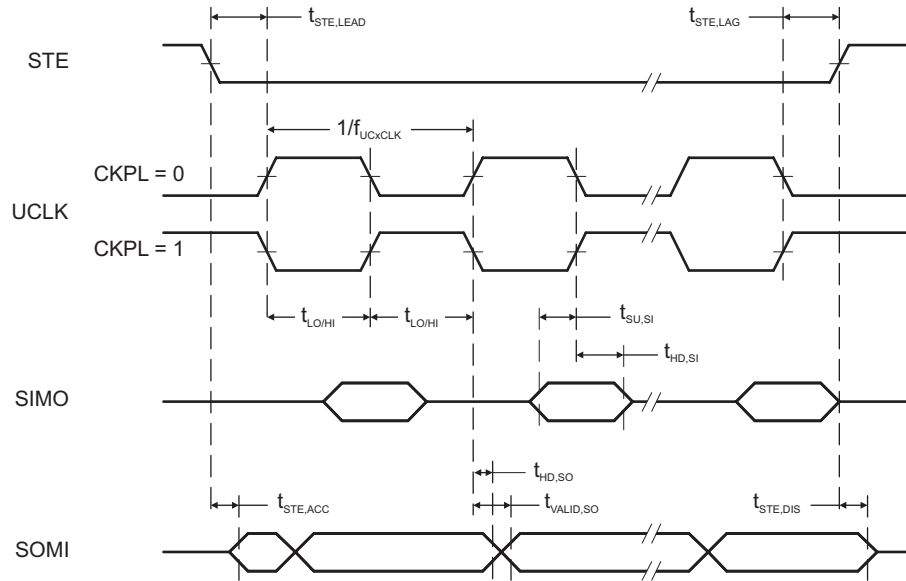
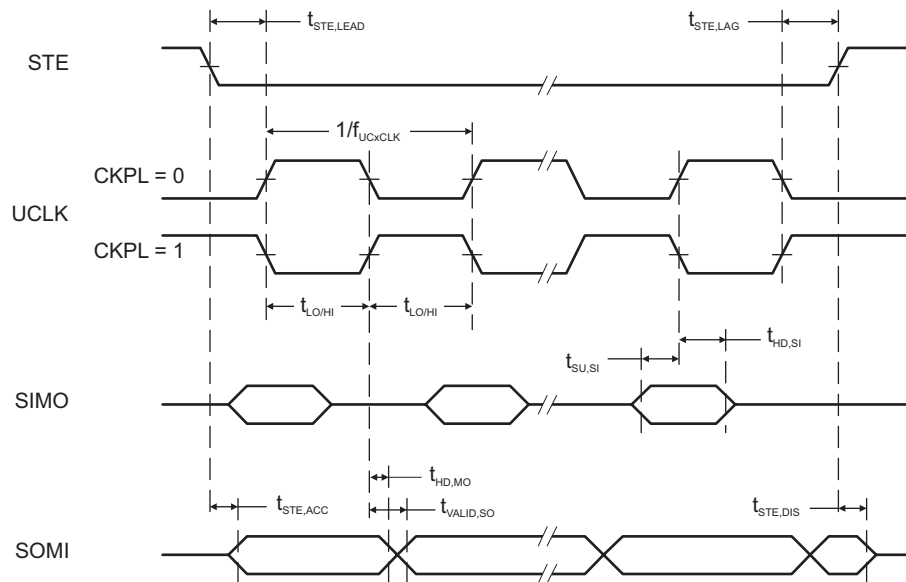

Figure 5-16. SPI Slave Mode, CKPH = 0
Figure 5-17. SPI Slave Mode, CKPH = 1
over recommended ranges of supply voltage and operating free-air temperature (unless otherwise noted)(1) (see Figure 5-16 and Figure 5-17)
- (2) Specifies the time to drive the next valid data to the SOMI output after the output changing UCLK clock edge. See the timing diagrams in Figure 5-16 and Figure 5-17.
- (3) Specifies how long data on the SOMI output is valid after the output changing UCLK clock edge. See the timing diagrams in Figure 5-16 and Figure 5-17.